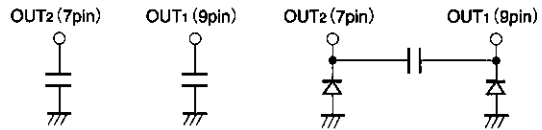

Fig.4
(8) To eliminate motor noise, connect a capacitor between OUT_1 (pin 9) and GND and between OUT_2 (pin 7) and GND. Alternatively, connect a capacitor between OUT_1 and OUT_2 , and also a diode between OUT_1 and GND and between OUT_2 and GND (see Fig. 4).